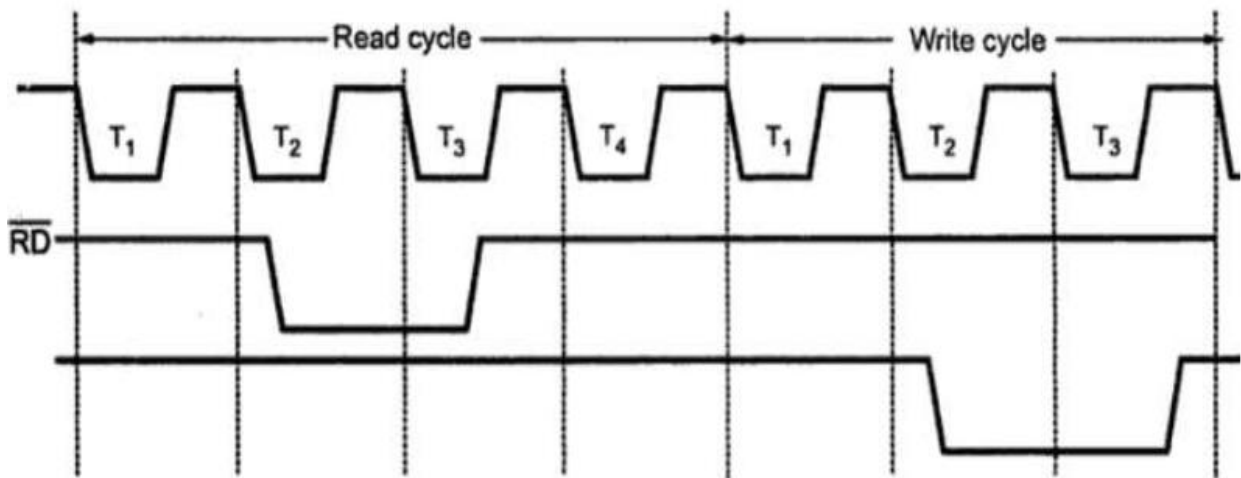

Fig.25 \overline{RD} and \overline{WR} signals
- Since the data transfer in 8085 takes place during T₂ and T₃, these signals are activated during T₂ and T₃ as shown in the fig.25.